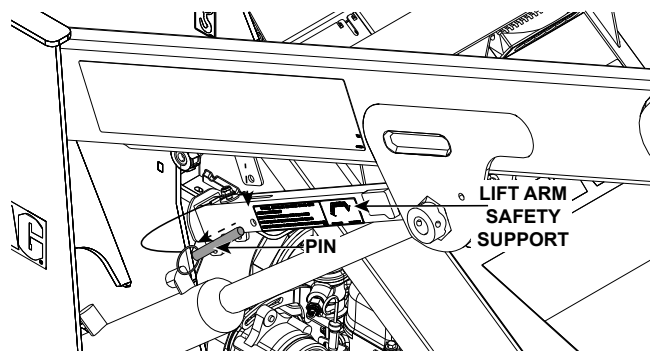

Figure 6-3. Cylinder Safety Pin
4. Remove the retaining pin to allow the lift arm safety support to rest on the cylinder. See Figure 6-3.